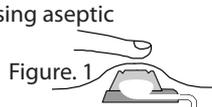

Figure 2
3. To access the NorPort™, isolate the top surface. Then, while stabilizing the port with the forefinger and thumb, puncture the skin and septum with the “Huber” point needle or needle set. Needle entry and contact with the needle stop are discerned by the “feel” of the needle as it passes through the septum to the base. Direct the needle perpendicular to the palpated surface. This will guide you to the center of the port (fig. 2).